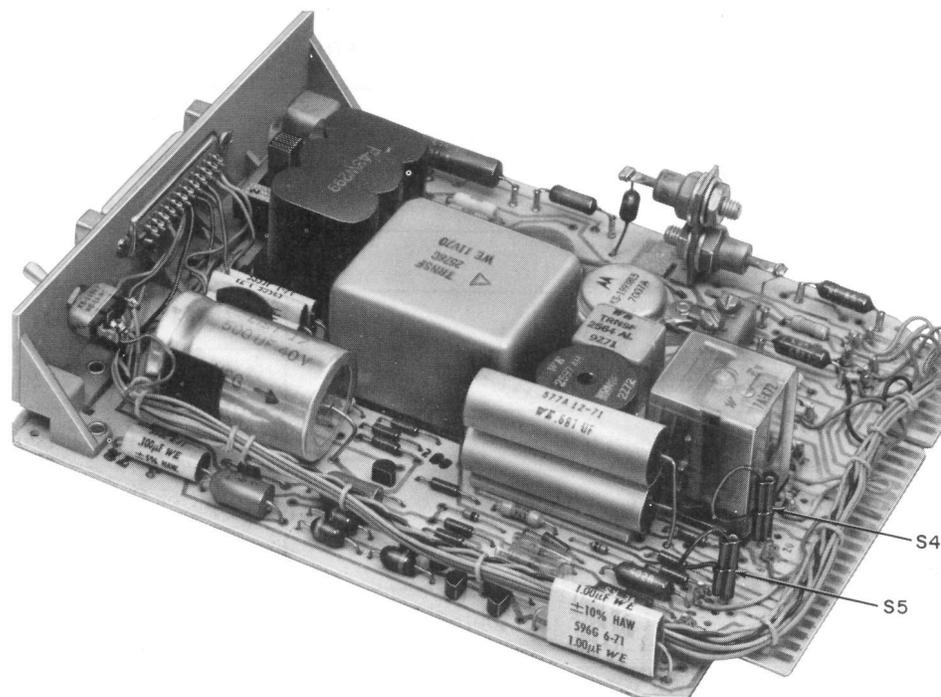

Fig. 6—AR593 Circuit Packs—Location of Switches S4 and S5
(c) To add illustration (Fig. 6) showing location of switches S4 and S5 on AR593 circuit pack (CP)
3.13 Data sets equipped with AR593 CP, series 6 or later, contain a digital loop-back testing capability provided by switches S4 and S5 as illustrated in Fig. 6. In this test, data is transmitted from the DTC to the data set, looped around at the data set customer interface, and transmitted by the data set back to the DTC. The data received at the DTC is then checked for errors. This allows the DTC to determine the error rate of the channel.